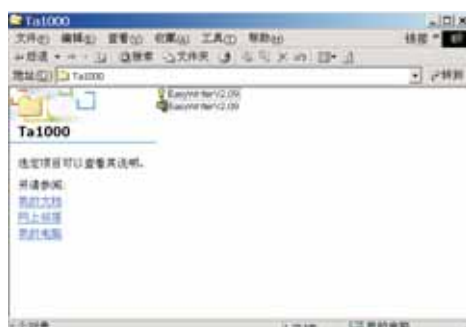

Fig. 3
Step 1 : Make a folder in your PC as shown in Fig. 3.
Step 2 : Copy ISP Software Easywriter.zip into your folder as shown in Fig.3.
Step 3 : Unzip Easywriter.zip into your folder as shown in Fig. 3.